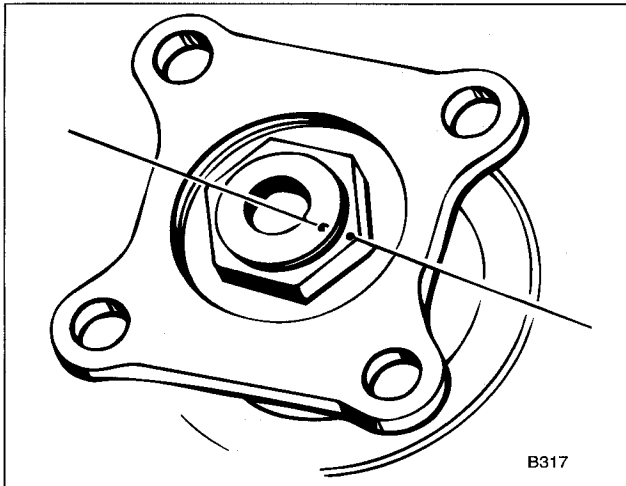

Fig. 4. Make matching marks on input shaft collar nut and flange.
4. Make matching marks on input shaft and input shaft collar nut. See Fig. 4.